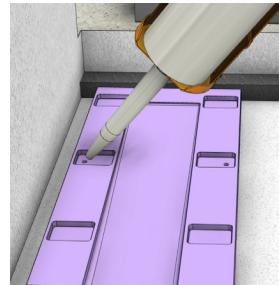

Fig 9
- Inject sealant into the holes prior to the installation of the fasteners (Fig. 9 & 10).